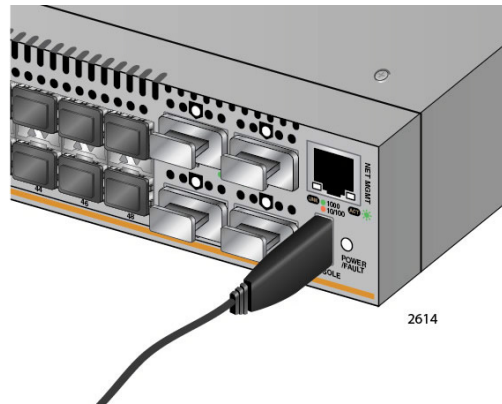

Figure 43. Connecting the Management Cable to the Console Port
1. Connect the USB connector on the management cable to the Console (USB) port on the front panel of the switch. See Figure 43.